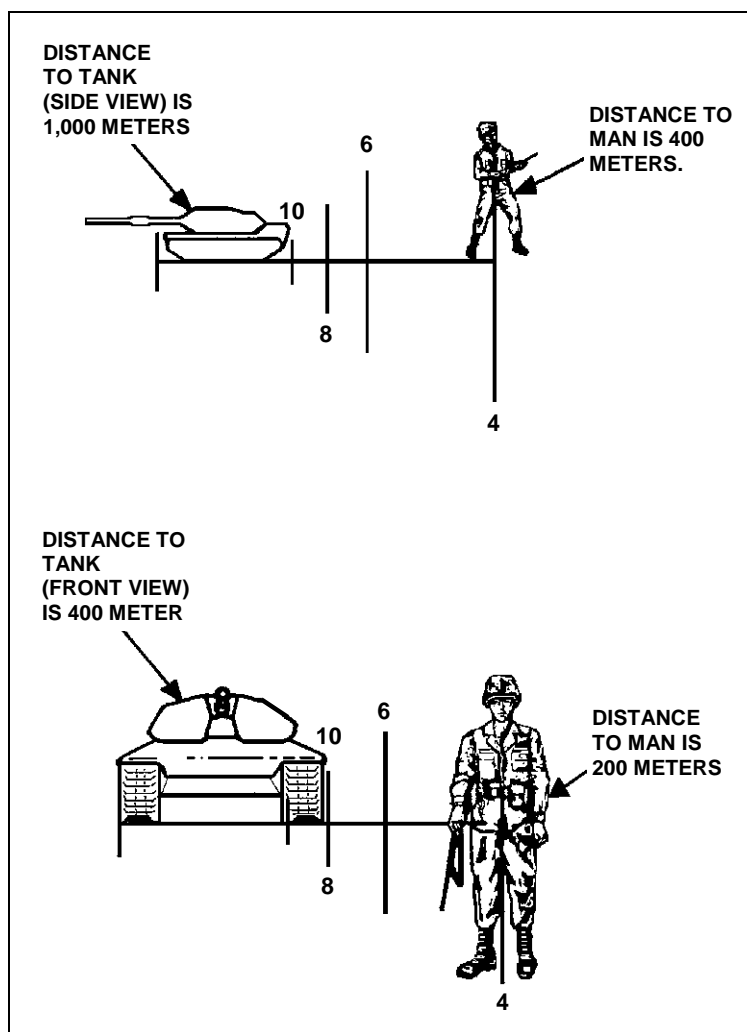

Figure G-5. Range estimation for M2 (old reticle).
a. Determine the range to the target (Figure G-5, page G-10). The range setting on the HWTS depends on the range to the target. To